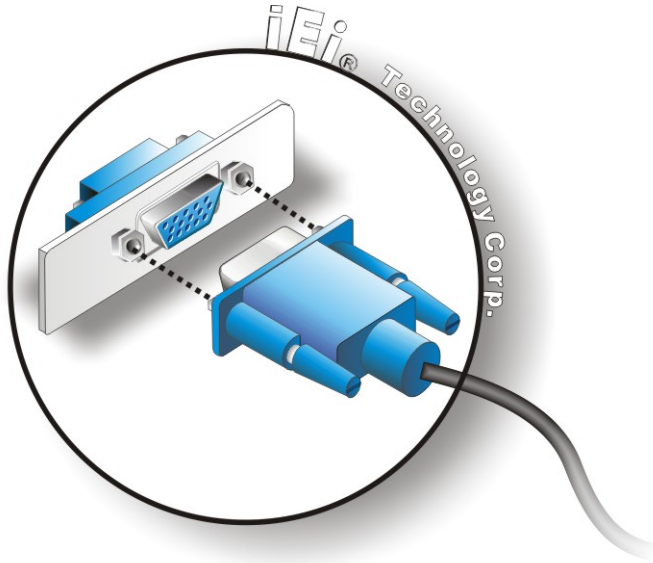

Figure 4-21: VGA Connector
Step 3: Insert the **VGA connector**. Once the connectors are properly aligned with the insert the male connector from the VGA screen into the female connector on the PICOe-PV-D4251/N4551/D5251. See **Figure 4-21**.